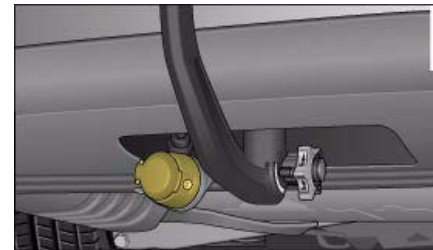

Fig. 242 Area below rear bumper: Electrical socket for trailer
- The cable of the towing bracket can be connected to the socket ⇒ *page 238*, fig. 242.